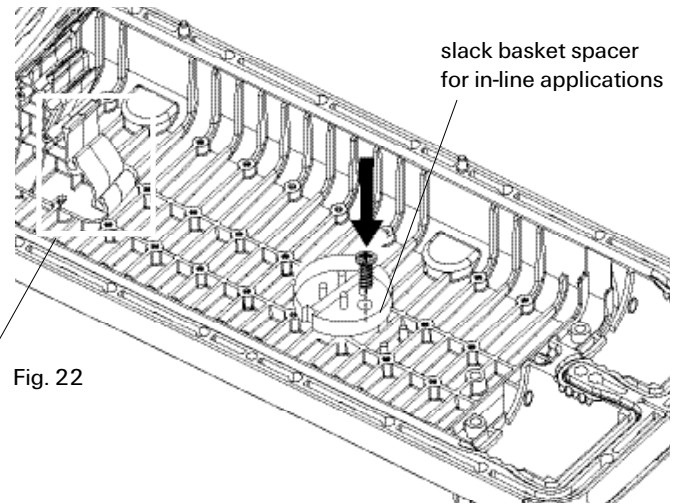

Fig. 22
3. Install a spacer as shown in Figure 22, using the same Phillips-head screw.